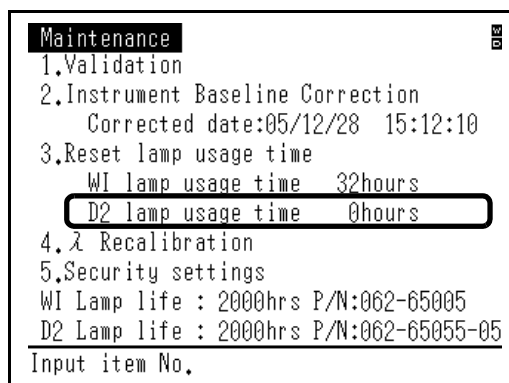

Fig. 3.7
- 5** You will return to the [Maintenance] screen (Fig. 3.7). Verify that [D2 lamp usage time] is reset to "0 hours".